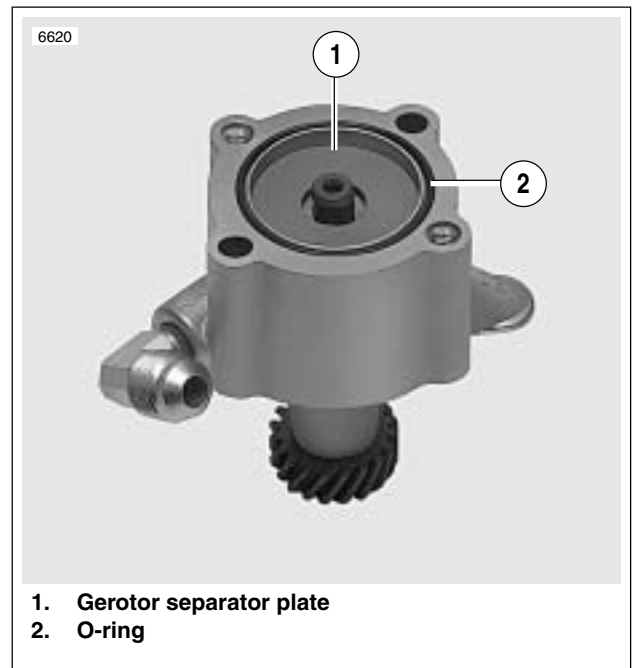

Figure 3-98. Oil Pump Assembly
3. See Figure 3-98. Check gear shaft teeth for damage or wear. Replace if necessary.
4. See Figure 3-98. Install gerotor separator plate (1).
5. Install a **new** o-ring (2) into groove in pump body.